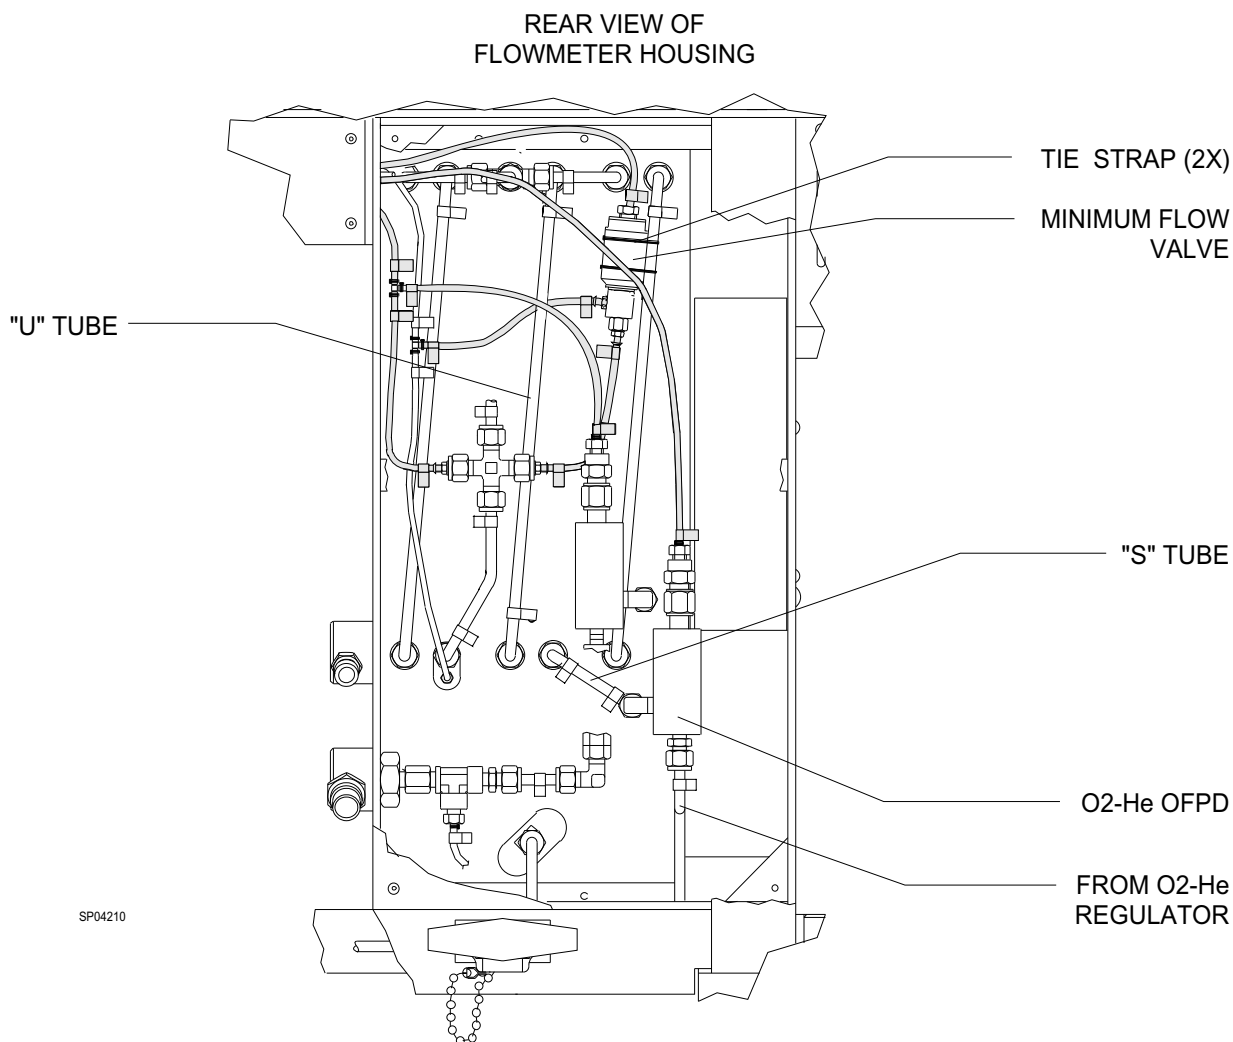

Figure 10: O₂-He OFPD AND MINIMUM FLOW VALVE INSTALLATION
27. Install a ¼ in.dia. "U" tube (P/N 4110835-003) from the bottom left to the top right fittings on the O₂-He flowmeter channel. Tighten the ferrule fittings securely and install a "O₂-He" label to each end of the tube (ref. Figure 10).
47. Connect a ¼ in.dia. (P/N 4110836-004) "S" tube to the O₂-He flowmeter inlet. See Figure 10. Install a "O₂-He" label on each end of this tube.
49. Connect the tube from the O₂-He cylinder pressure regulator to the bottom fitting of the O₂-He OFPD as shown in Figure 10.
50. Attach the minimum flow cutoff valve to the N₂O flowmeter "U" tube with two tie straps as shown in Figure 10.